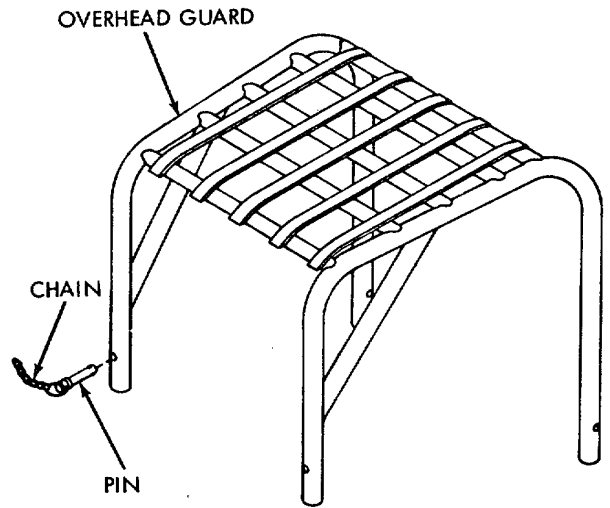

Figure 4-66. Overhead guard removal
(1) Remove the pins securing the overhead guard to the frame (fig. 4-66).